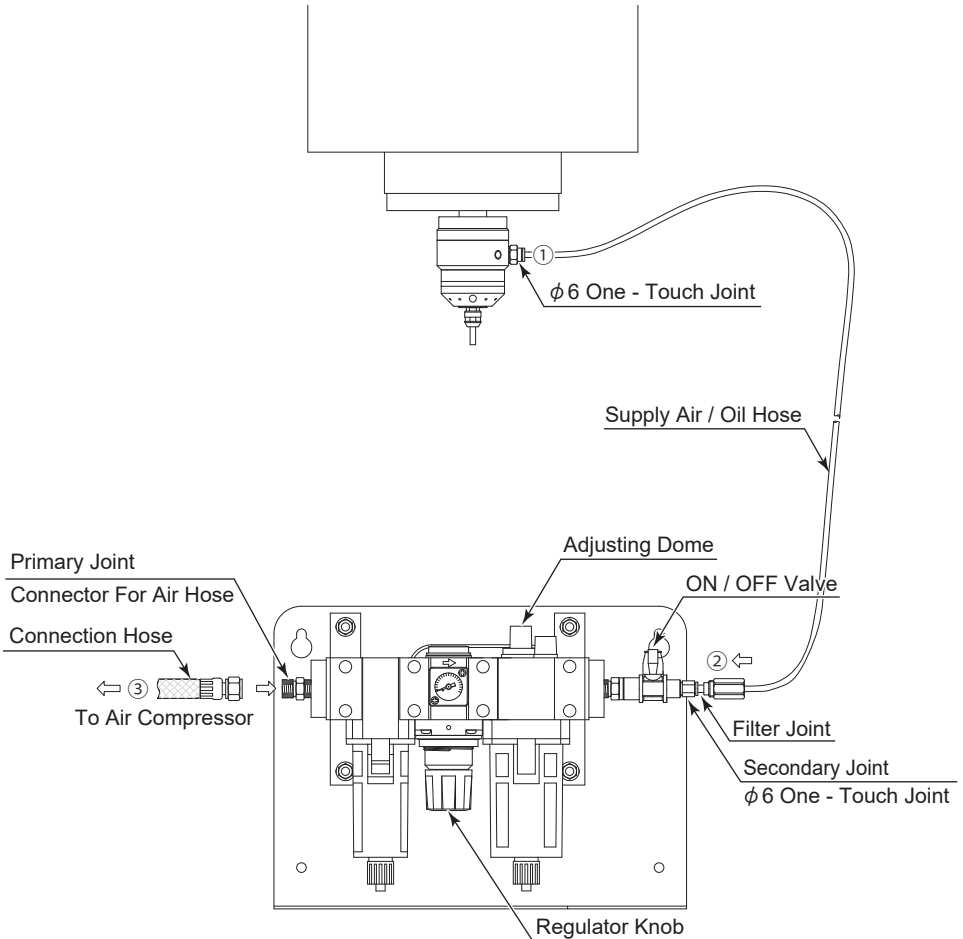

Fig. 11 Connection of Air Line Kit " AL - M1202 (Sold Separately) "
- (1) Connect the supply air / oil hose to the  $\phi 6$ mm One - Touch Joint on the Air Turbine Spindle (Fig. 11 ①).
- (2) Connect the Filter Joint of the supply air / oil hose to the Secondary Joint ( $\phi 6$  One - Touch Joint) of the Air Line Kit (Fig. 11 ②).
- (3) Fill Oil Reservoir through the Oil Filler Cap with recommended NAKANISHI Lubricating Oil (K - 211 : Air Line Kit's standard accessories) to Upper Limit. Disconnect from air supply prior to opening Oil Filler Cap. Do not over or under fill.
- (4) Connect the connection hose (Air Line Kit's standard accessories) to the Primary Joint of the Air Line Kit and Compressor (Fig. 11 ③).
- (5) Supply air from the air compressor and turn the Regulator Knob to set air pressure 0.5 MPa.
- (6) Turn the ON / OFF Valve and rotate the Air Turbine Spindle with recommended proper air pressure.